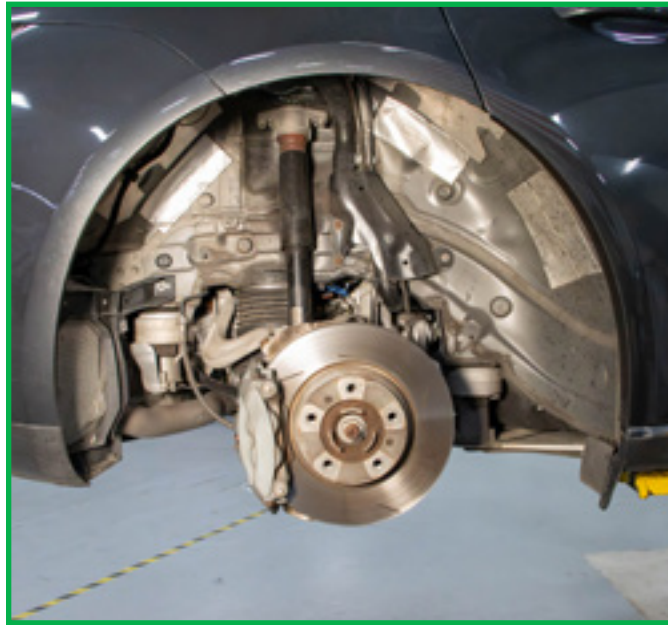

FIGURE 4
6. Remove the applicable rear wheel. (Figure 4)